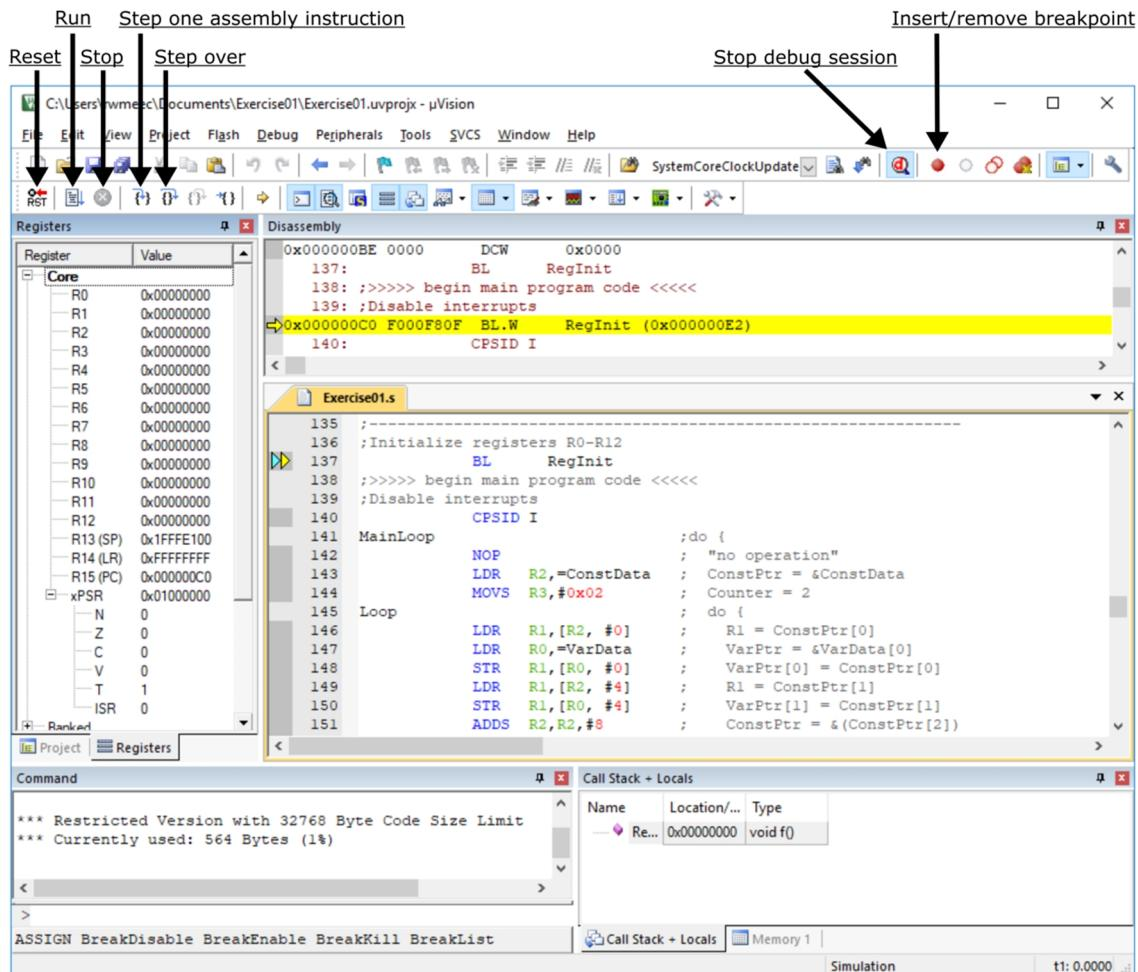

Figure 23. μVision Debug Simulator
To start a debug session, on the top toolbar row toward the right of the window, click the Start/Stop Debug Session icon (or select menu Debug→ Start/Stop Debug Session), as shown in Figure 23.
- ☞ Note: Figure 23 also indicates the most commonly used toolbar icons for the µVision IDE debug simulator.